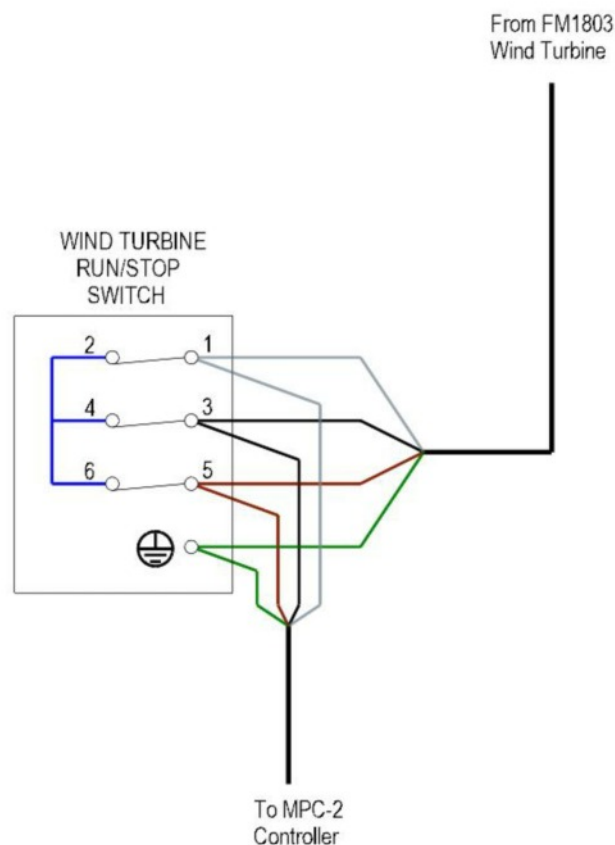

Fig 9. Run/Stop Switch Connections (optional)
- If selected install the separately supplied Run/Stop Switch following the wiring diagram Fig 9 at a suitable location close to the control unit or convenient for shutting down the turbine in the event the control unit needs to be isolated. Set it at the STOP position.